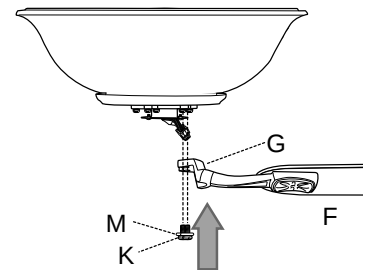

Fig. 4
4. Insert only one motor screw (K) through blade arm (G) to attach blade arm (G) to motor using one of the lock washers (M) and one of the motor screws (K) that were previously removed (Step 5, page 5). Partially tighten motor screw (K). [Fig. 4] Repeat with remaining blade arms (G).